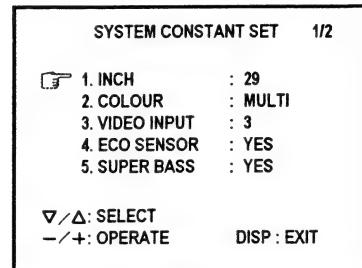

Fig. 2
- 3) While the SERVICE MENU on display, press the DISPLAY key and PICTURE MODE key simultaneously, and the SYSTEM CONSTANT SET screen of Fig. 2 will be displayed